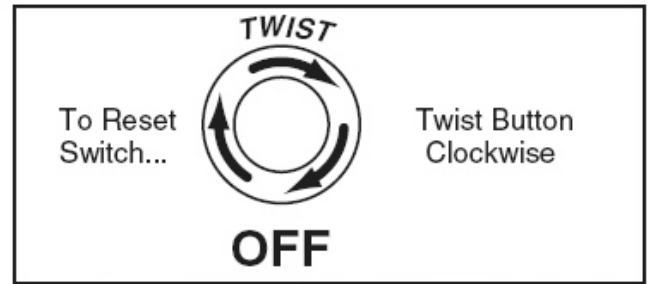

Figure 14. Resetting the Emergency Off switch.
5. Push the EMERGENCY OFF button in, then twist it clockwise so it pops out. When the OFF button pops out, the switch is reset and ready for operation (see **Figure 14**).